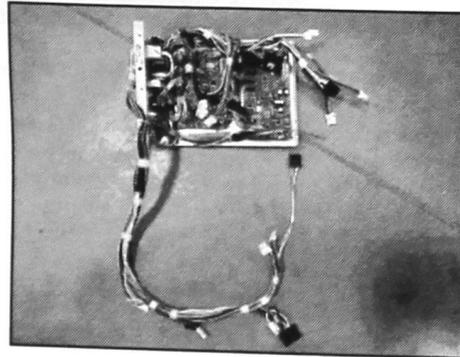
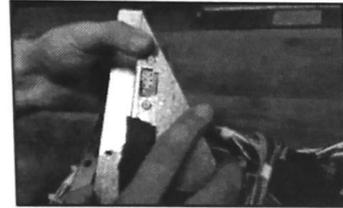

FIGURE 12
FIGURE 17
14. Unpack new HV assembly from the package it was shipped in. Upon unpacking, the new HV assembly will be similar to the image shown in Figure 12.
**NOTE:** The High Voltage (HV) Assembly you receive may not look the same as the control shown in the instructions.
19. The switch plate assembly will need to be added to the new HV assembly shown in Figure 12. Start by reconnecting the testing connector from the new HV assembly. Push the testing connector back through the cutout. See Figure 17.